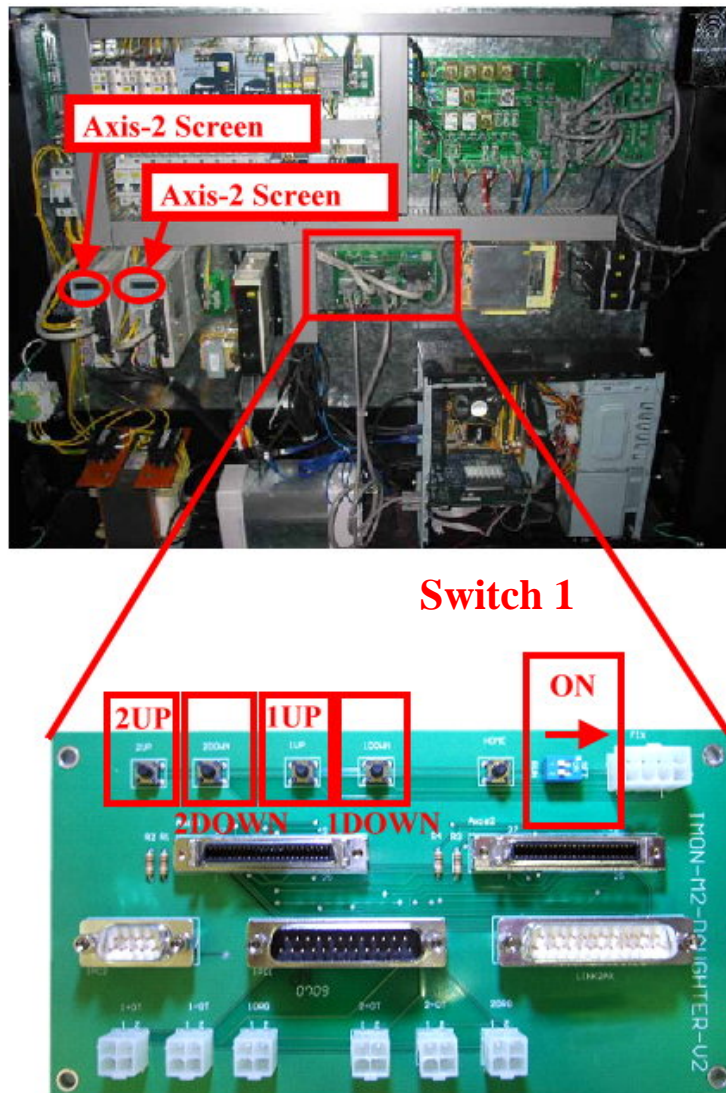

Fig. 6-9 IMON-M2-DAUGHTER-V2 Card
Step 3 : Adjust the switch 1 to be ON as shown in Fig. 6-9.
ALE15	Press the button "1 UP" (Fig. 6-9) about 5 seconds.
ALE15	Press the button "2 UP" (Fig. 6-9) about 5 seconds.
Step 8 : Adjust the switch 1 to be OFF as shown in Fig. 6-9.